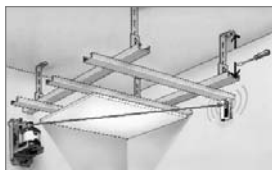

Bild 3
- For ceiling work, the height-adjustable wall mount (Art. No. 080.70, Fig. 3) is an indispensable aid.